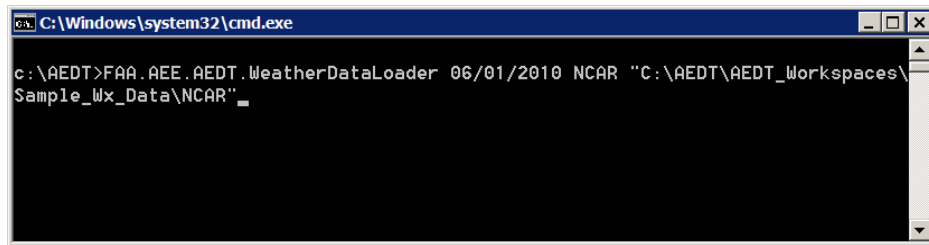

Figure G-3 Command Window — Weather Data Loader
3. Type in the following command, omitting the brackets as shown in Figure G-3: